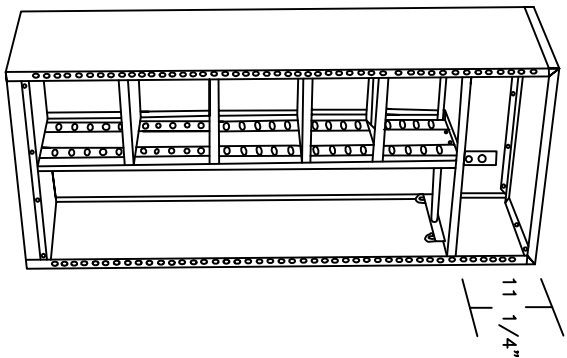

FIG. 11
2. FASTEN ONE (1) HANGER BAR BRACKET UNDER END OF SHELF WITH #10-24 X 3/8 TRUSS HEAD BOLTS & NUTS. INSTALL SHELF ASSEMBLY INTO CABINET AT LOCATION SHOWN IN FIG. 11.